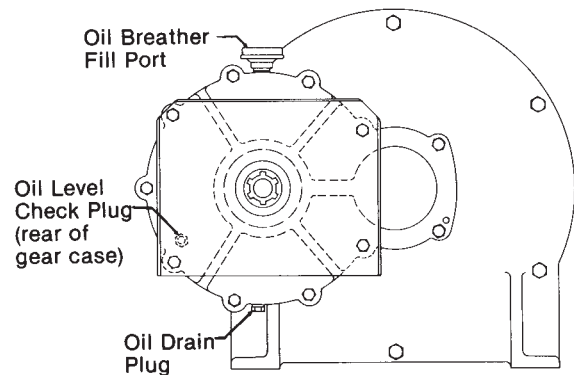

Figure 5
2. Check gear case oil level. See Figure 5. Case should be filled with oil to plug marked "OIL LEVEL." Fill or remove oil as required.
Check the generator gear case oil level before each use of the generator. Maintain the oil level at oil level plug height. Figure 5 illustrates oil level plug location. The generator is shipped with lubricant in the gear case. Specifications for gear case lubricant are:
Use the following procedure to change generator gear case oil. See Figure 5.